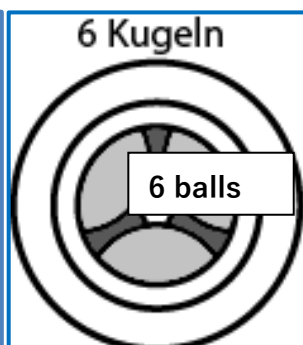

Fig. 2
8. When looking through the nozzle, part of the circumference of six balls protruding into the nozzle's pass-through channel must be visible (Fig.2). The lighter, central gap formed by the configuration of the six balls is to form a hexagon in the pass-through channel, similar to a star with six points. If the six balls are not visible in the grip slider as described above, the grip slider should not be used. Contact the Quality department of Reutlinger GmbH.